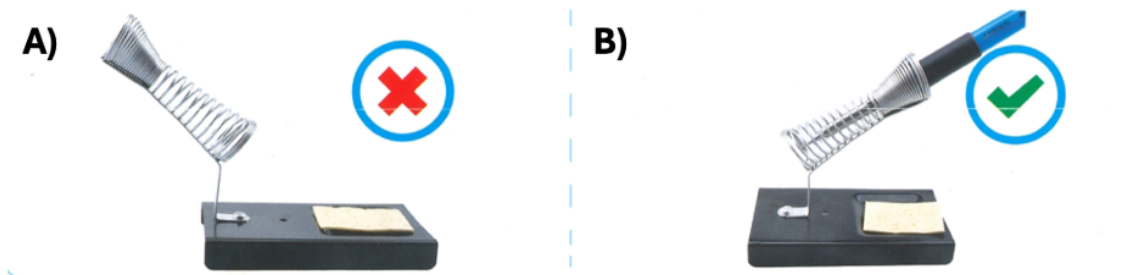

Figure 1. Ensure solder stand is correctly arranged. **A)** Incorrect position, **B)** Correct position
- Ensure that soldering iron stand is properly positioned (**Fig 1**)